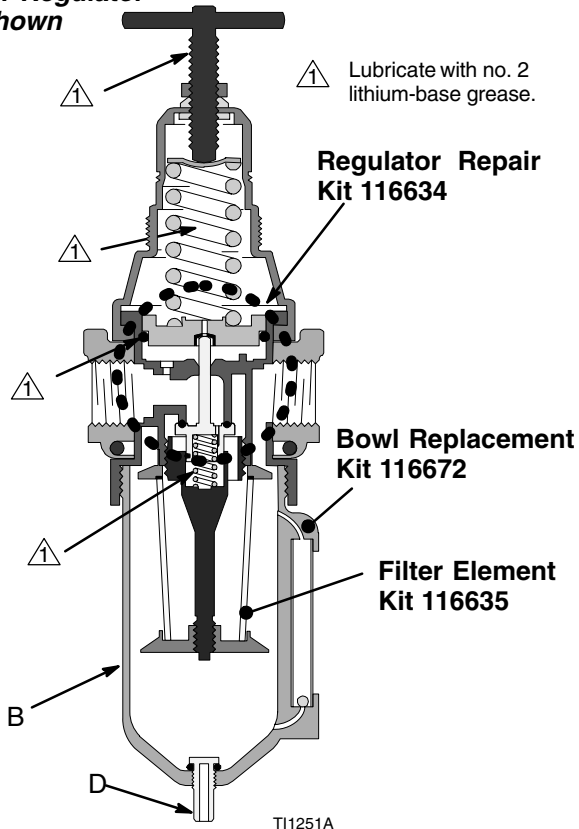

Fig. 3
Every day, drain contaminants from the bowl before reaching the baffle level by opening the drain (D) at the bottom of the bowl (B). See Fig. 3.
Lubricate the bearing area, all o-rings, adjusting screw threads, and spring ends with no. 2 lithium-base grease. See. Fig. 3. Reassemble the regulator.